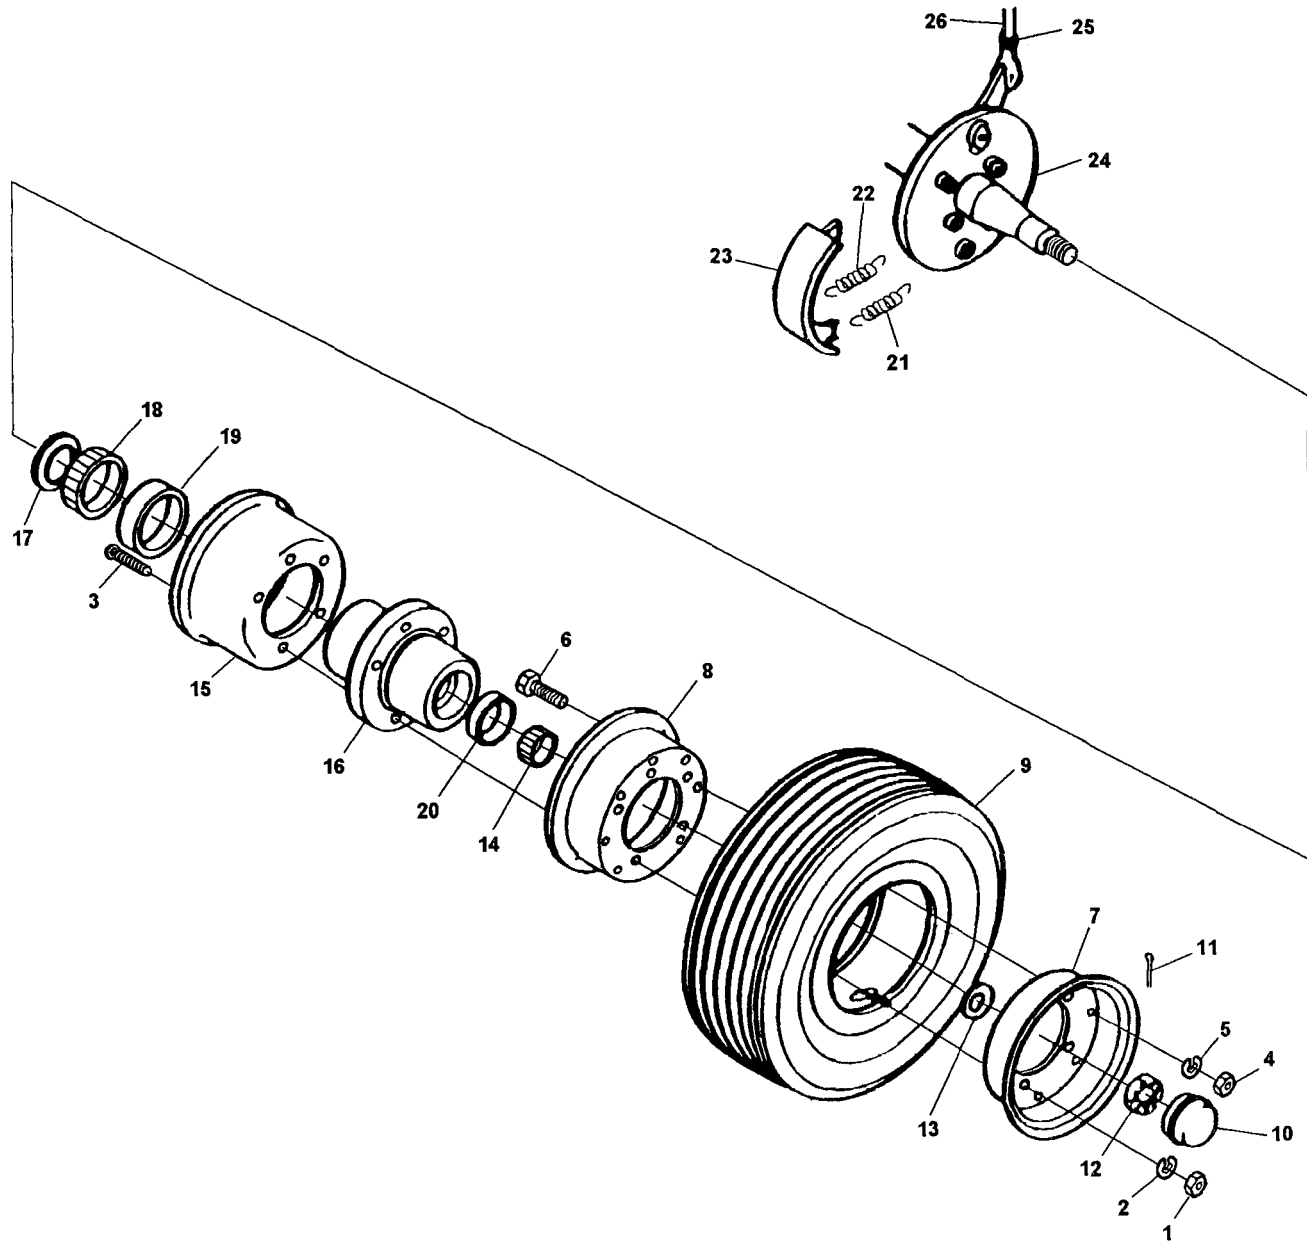

Figure 5-10. Wheel Mounting Kit, Wheels and Brakes, Exploded View
- (d) Remove lug nuts (1, Figure 5-10) and lockwashers (2) to remove wheel and tire.
- (e) Remove nuts (4), lockwashers (5) and screws (6) to separate wheel halves (7 and 8) and pneumatic tire (9).
- (f) Inspect lug nut studs (3) for crossed, stripped, or peened threads or other damage.
- (2) Repair. Refer to Appendix A for listing of applicable manual for pneumatic tire repair.
- (3) Installation.
- (b) If damaged, install new lug nut studs (3, Figure 5-10).
- (c) Install pneumatic tire (9), wheel halves (8 and 7), screws (6), lockwashers (5), and nuts (4).
- (d) Position tire and wheel to install lockwashers (2) and lug nuts (1).
- (a) Remove wheel and tire as outlined in paragraph 5-19a (1) above.
- (b) Remove grease cap (10, Figure 5-10), cotter pin (11) and castellated nut (12) and key washer (13) to remove outer bearing (14).
- (c) Remove drum (15) and hub (16) as an assembly with grease seal (17), inner bearing (18) and races (19 and 20). Remove grease seal and inner bearing.
(1) Removal.
- (a) Remove wheel and tire with drum assembly as outlined in paragraph 5-19b. (1) above.
- (b) Remove return springs (21, Figure 5-10).
- (c) Remove hold-down springs (22) and brake shoes (23) from axle and plate assembly (24).
(2) Cleaning and Inspection.
(3) Repair. Replace any parts found defective.
(4) Installation.
- (a) Install brake shoes (23, Figure 5-10) and springs (22) onto axle plate assembly (24).
- (b) Install return springs (21).
- (c) Install tire and wheel with drum assembly as outlined in paragraph 5-19b. (1) above.
- (b) Loosen lock nuts (25, Figure 5-10) on both wheels and rotate rod (26) until both brake shoes lightly rub drums. Tighten lock nuts (25).